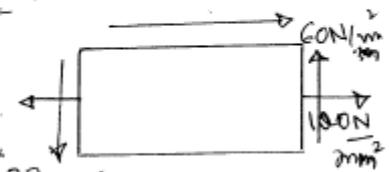

Fig. 11 Q.5(b)
- vii)** The relationship between Shear force (V) and Bending moment (M) is given by the differential \_\_\_\_\_
- (b)** The shear and normal stresses on a cross section of a beam are shown in the Fig. 11. Find the Principal stresses and direction of Principal planes. **07**